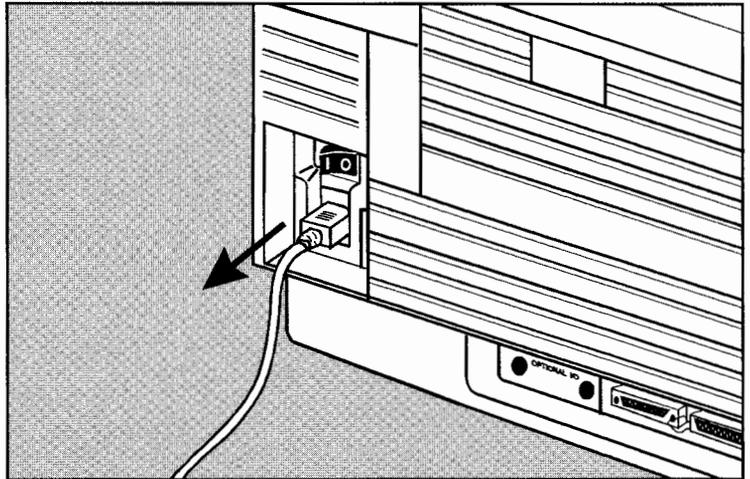

Figure 3-3. Unplugging the Printer Power Cord
1. Turn the printer off and unplug the power cord from the printer. See Figure 3-3.